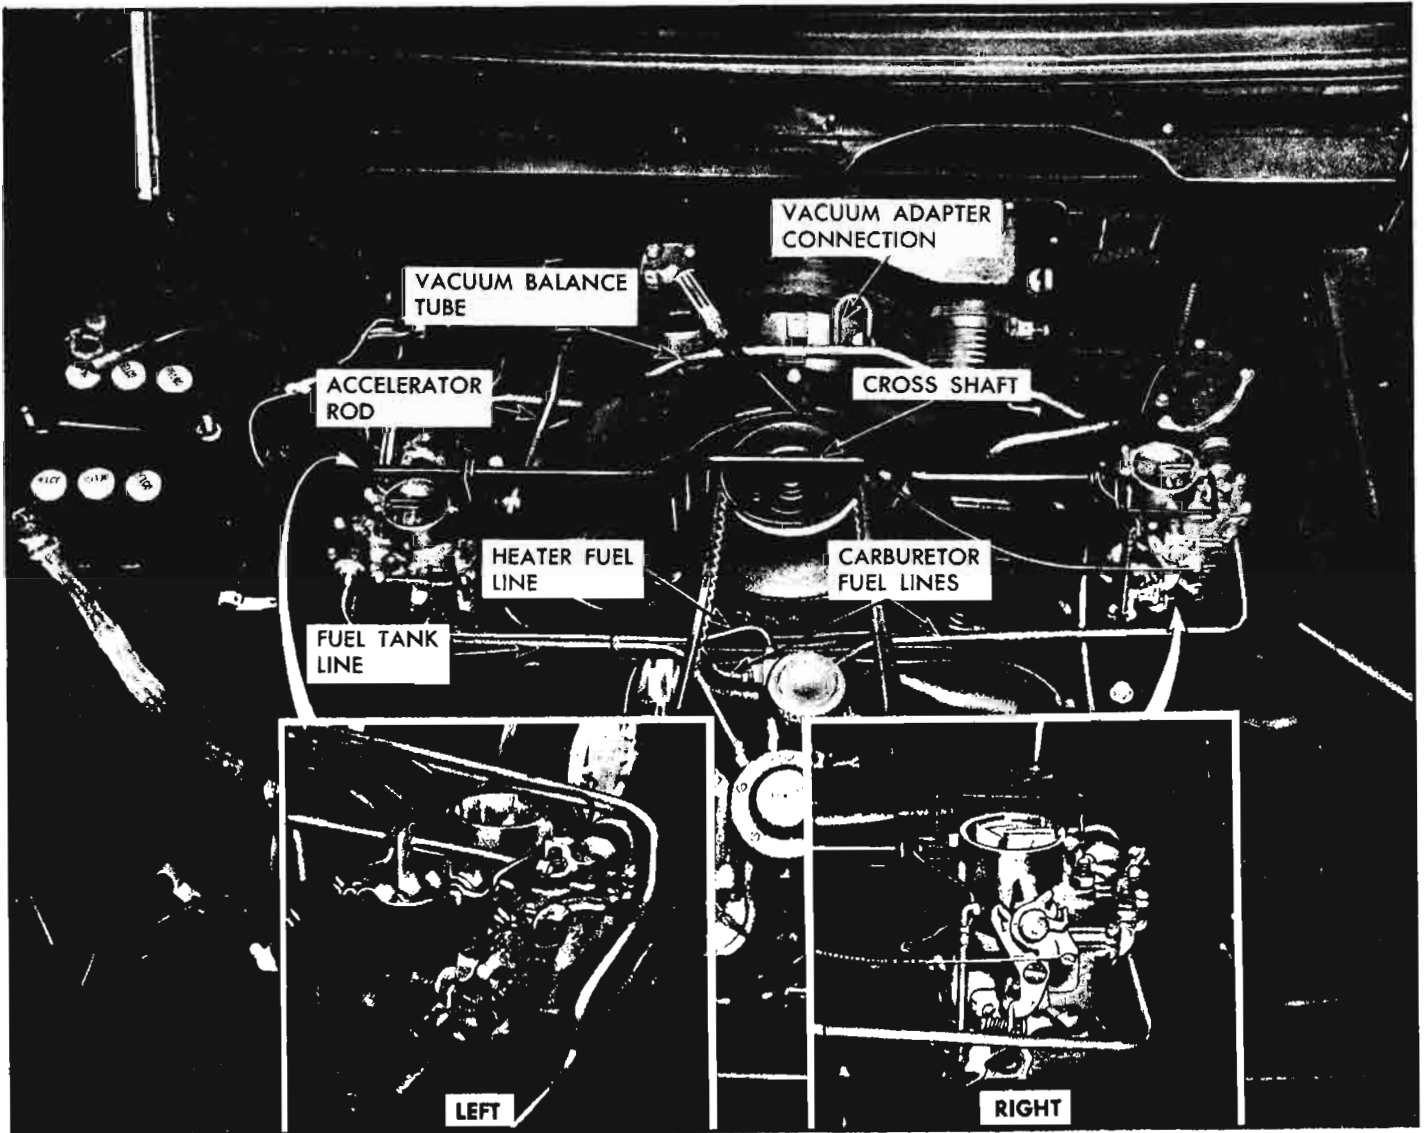

Fig. 7-9—Cross-shaft and Linkage to Carburetors
- b. Left Carburetor—Rotate carburetor cross-shaft (with accelerator rod—fig. 7-9) to ensure positive closing of the right carburetor throttle valve. Adjust throttle rod length in swivel until rod freely enters hole on carburetor cross-shaft lever and secure rod with retainer clip.
- c. Connect vacuum gauge to adapter (fig. 7-9) on vacuum balance tube. (Remove transmission vacuum line on automatic transmission and cap on synchromesh from balance tube adapter.)
- c. Move accelerator lever (fig. 7-9) to obtain 1200 rpm (all transmissions in neutral).
CAUTION: When making linkage adjustments, accelerate engine by moving accelerator rod only (fig. 7-9). Do not open